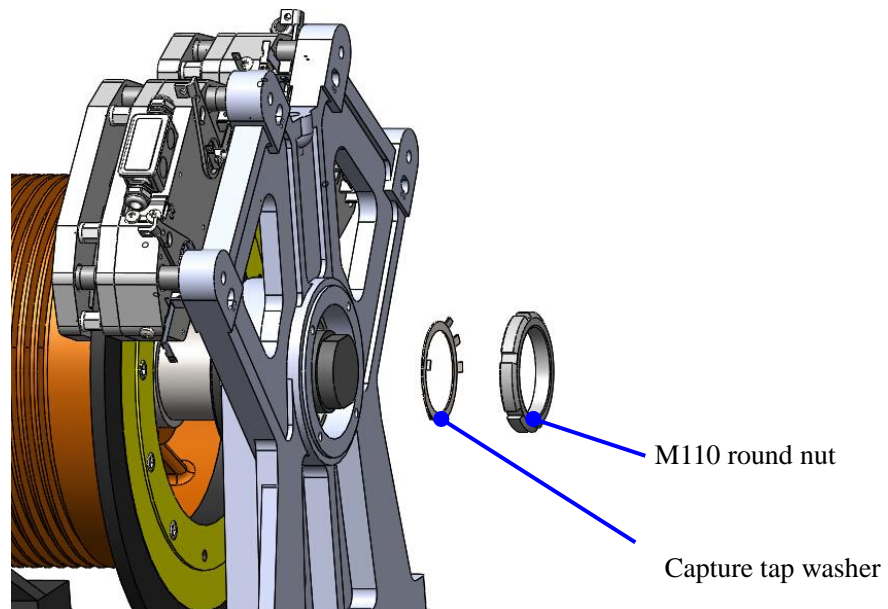

Figure 69: Install the M110 Round nut and Tap washer
13. Install the M110 round nut and tap washer **making sure the tapered side of the Round nut is toward the machine.** Tighten and lock the round nut by bending over a tab on the tap washer. See Figure 69.